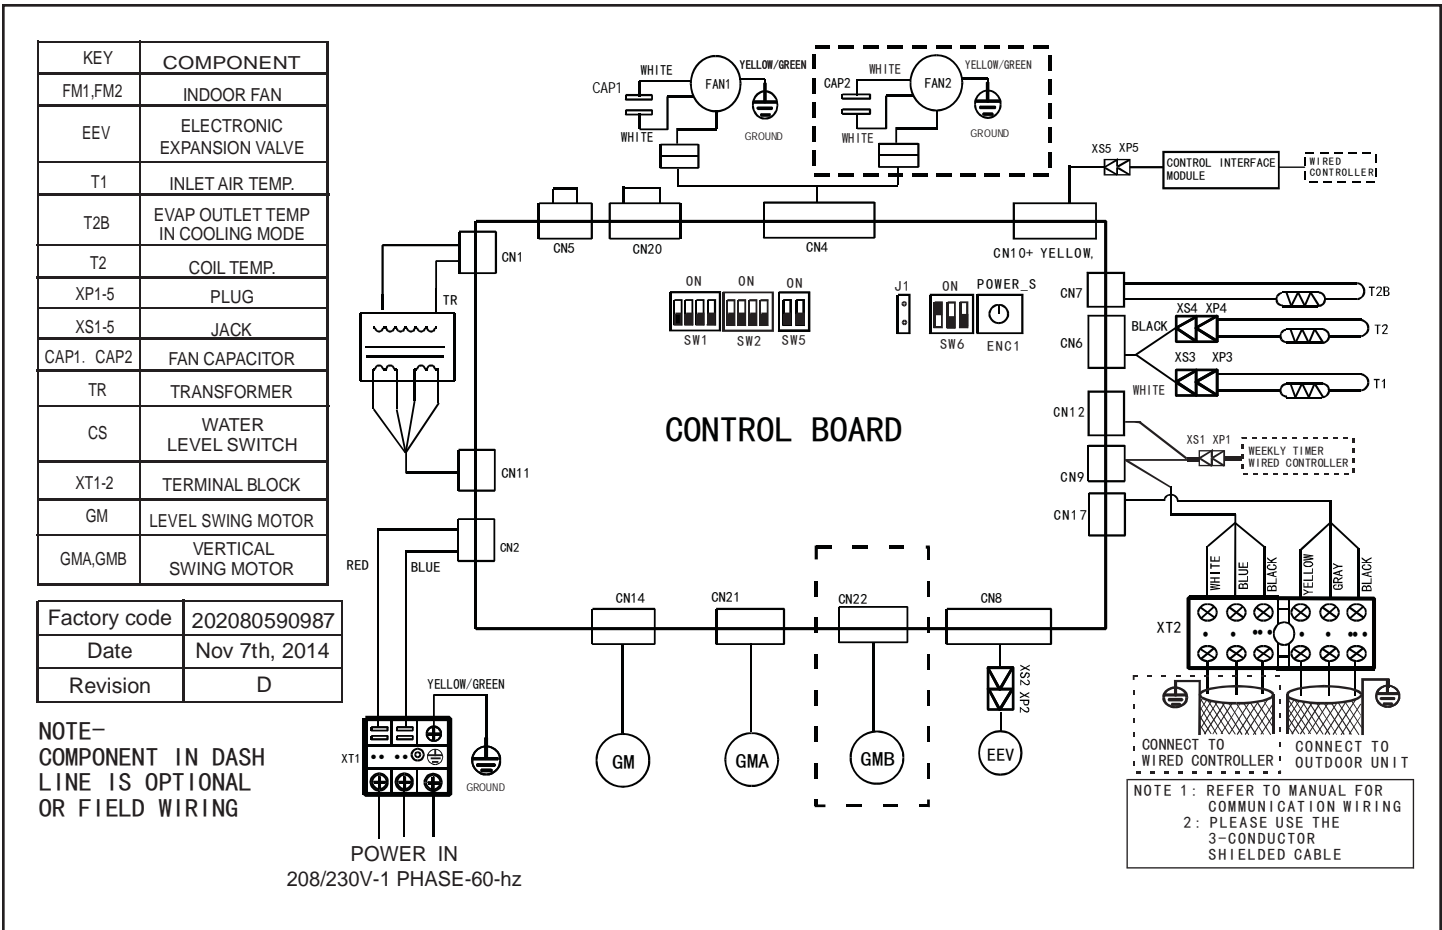

Figure 11. VCFA012-48 Wiring Diagram
6. Locate the terminal strip in the control box. Connect the power wiring (sized per NEC/CEC and local codes) and communications cable (three-conductor shielded cable) per figures 11 and 12. Refer to unit nameplate for rated voltage.